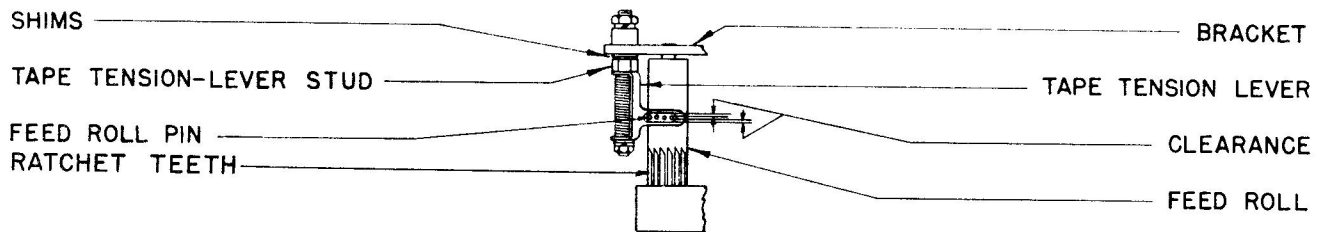

FIGURE 6
d. TAPE TENSION LEVER STUD (FIGURE 6)